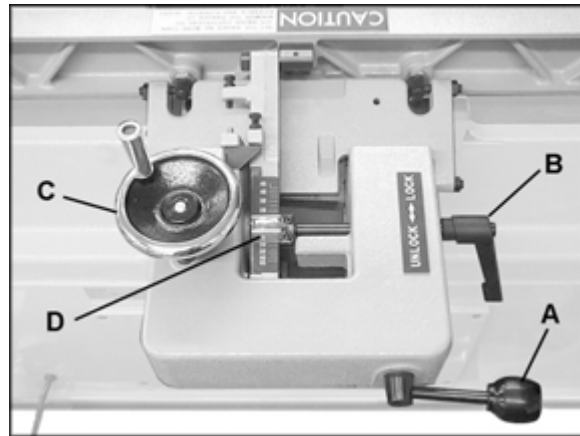
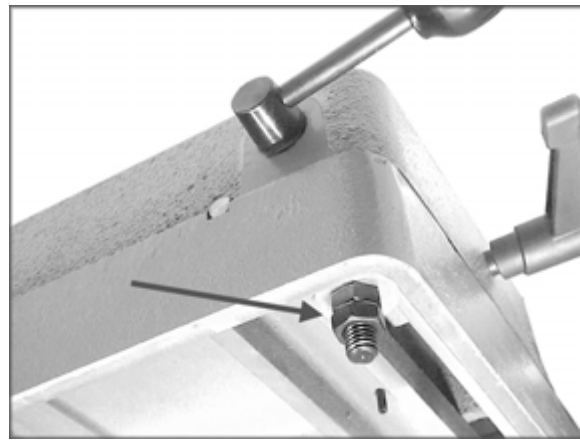

Figure 14
Figure 15
1. Loosen locking handle (A, Figure 14).
2. Push the entire fence assembly to the desired position, and tighten locking handle (A, Figure 14). A plastic buffer piece is mounted to the front of the fence to prevent scratching the table when moving the fence.
**NOTE:** If the lock handle (A, Figure 14) is in an inconvenient position, it can be adjusted. Loosen the two hex nuts underneath the slide bracket (Figure 15). Flip the handle to the desired position and re-tighten the hex nuts. Do not over-tighten the hex nuts, as this can make the fence difficult to move on the slide bracket.
1. Loosen locking handle (B, Figure 14).
2. Rotate handwheel (C, Figure 14) until the desired angle is indicated on the scale (D, Figure 14). Or you can place your beveled workpiece on the table and against the fence, and rotate the handwheel (C, Figure 14) until the angle of the fence matches the bevel of your workpiece.
3. Tighten locking handle (B, Figure 14).
To remove the fence assembly from the machine, remove the two hex nuts and one flat washer that secure it to the slide bracket (see Figure 15). Lift the fence straight up and off the Joints.